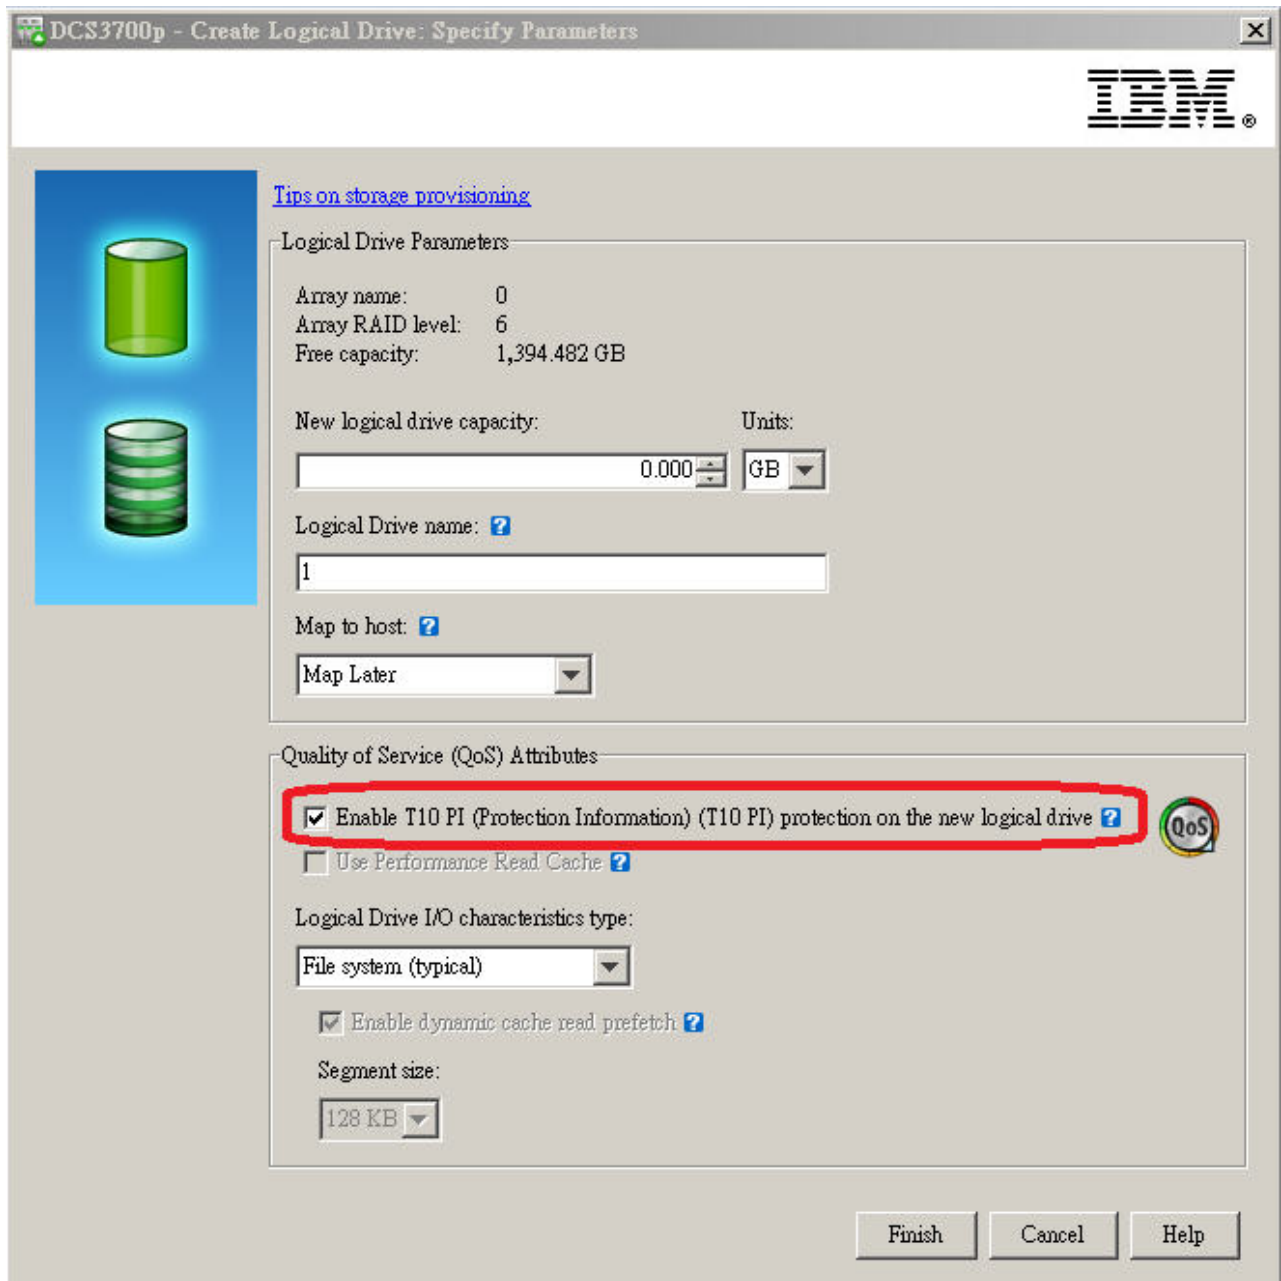

Figure 5. Enabling T10 PI on a logical drive
- In the Specify Capacity/Name (Create Logical Drive) dialog click **Enable T10 PI (Protection Information) (T10 PI) on the new logical drive** as shown in Figure 5 on page 61.